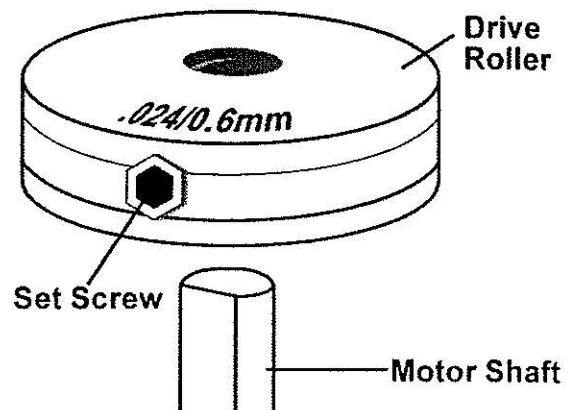

Figure 5. Drive Roller
4. Find the side of the drive roller that is stamped with the same wire diameter as that of the wire being installed (see Figure 5, and if in metric, see DESCRIPTION). Push the drive roller onto the motor shaft, aligning the set screw with the flat side of the drive shaft. Make sure the side stamped with the desired wire diameter is away from you.